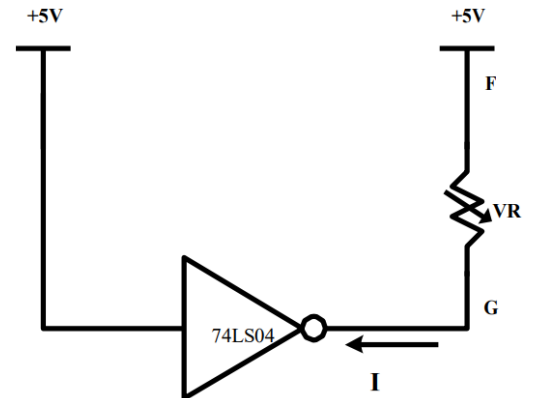

Fig. 6: Circuit diagram for I_{ol} measurement
- (1) Replace the resistor R with a $10k\Omega$ variable resistor, as shown in Fig. 6, adjust variable resistor and measure the voltage between **Points G and ground** such that $V_{oh} = V_{ih}$.
- (2) Measure the current between **Points F and G**.